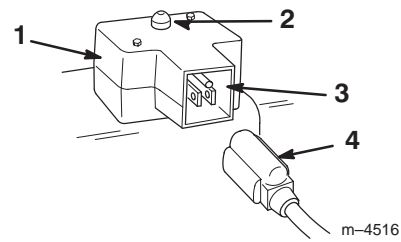

Figure 17
- **Electric Starter** (Fig. 17)—Push the starter button to start the engine.
- **Power Cord** (Fig. 17)—Connect the power cord to the electric starter and to an electrical outlet when starting the engine.
- A. Connect the power cord to the snowthrower (Fig. 17) and to a standard household power outlet.